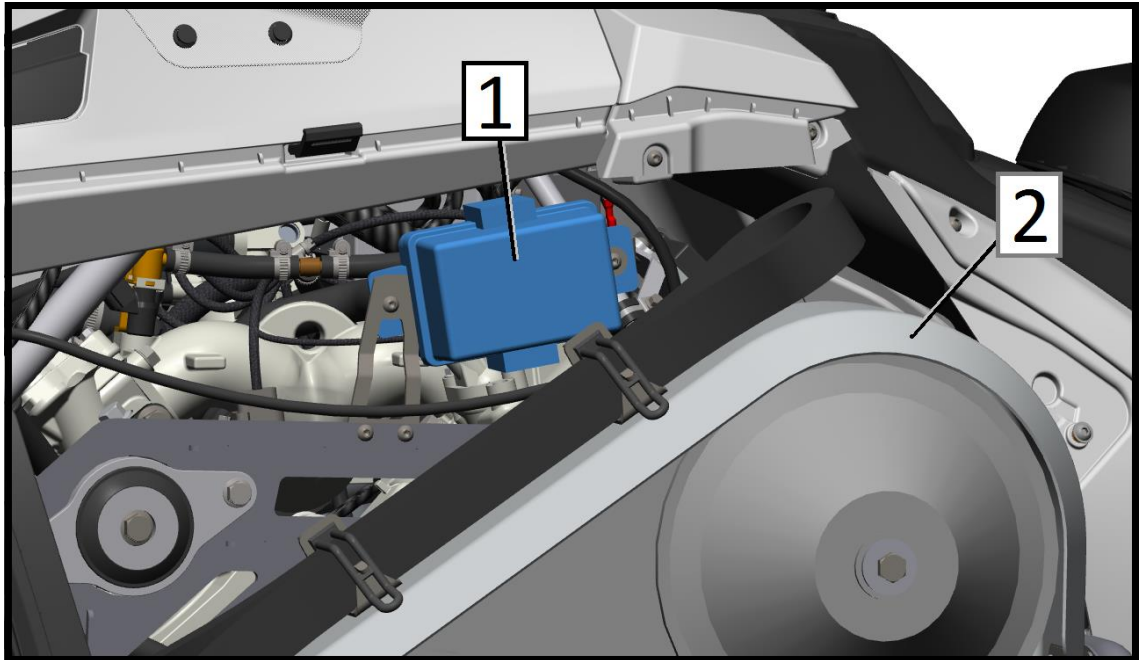

Fig. 48
1. Remove the left panel (see item 17 "Control mechanism, equipment, equipment")
2. Press the fixing button of the safety unit on both sides (position 2, Figure 48) (it is convenient to use a flat screwdriver)
3. Open the safe cover (position 1, figure 48).